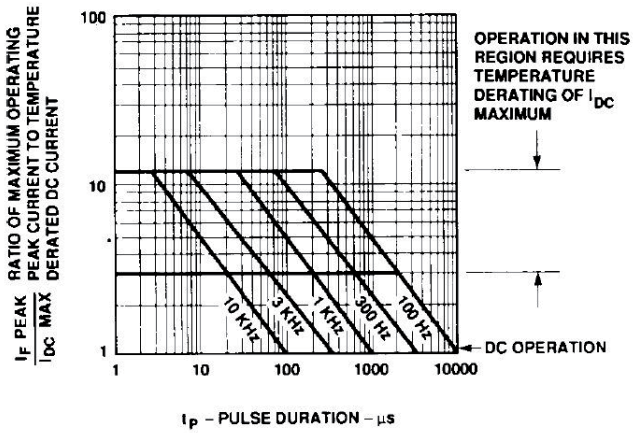

Figure 8. Allowable Peak Current vs. Pulse Duration – Green Series.
- See Figure 8 to establish pulsed conditions.